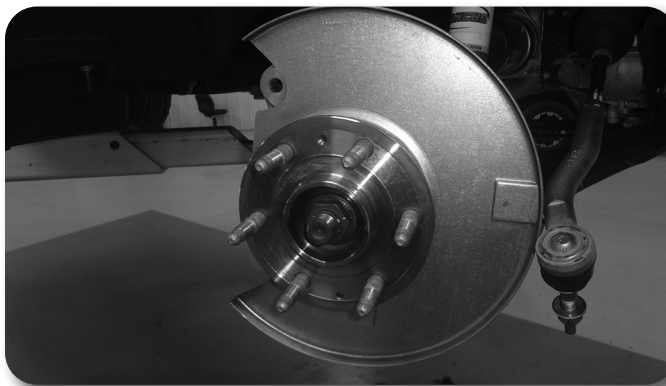

Figure 6
10. Remove and retain the axle shaft nut Fig. 6.